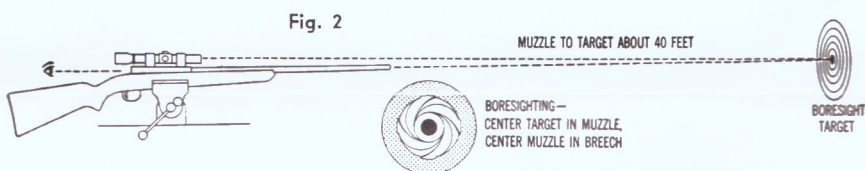

Fig. 2
4. Place the rifle in a vise or some fixed position with the bore or regular sights precisely lined up on a target about 40 feet distant, Fig. 2. To boresight lever action and pump action rifles, look through the barrel by means of a small piece of mirror held at an angle in the breech.